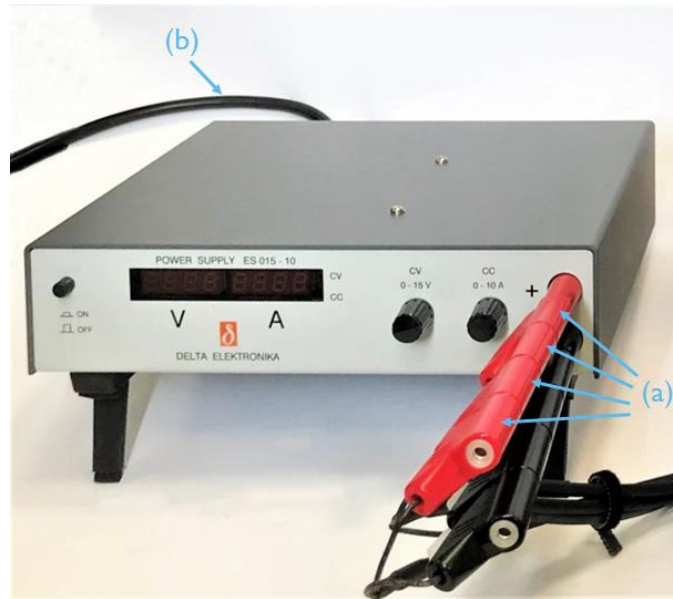

Figure 19. Connecting lamps to the power supply (Step 5.1)
Step 5.1 Connect power cables to power supply (Figure 19)
- Connect the 4 pairs of red and black banana connectors corresponding to the 4 lamps to the output of the power supply, as shown in Figure 19.